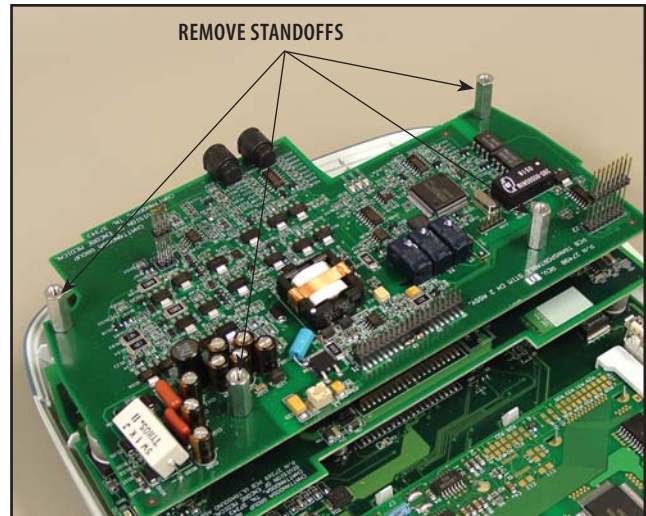

FIGURE 6.12
3. Using the 1/4" Nut Driver, remove the four Stand Offs securing Channel 2 Stim Board in place. **See Figure 6.12.**